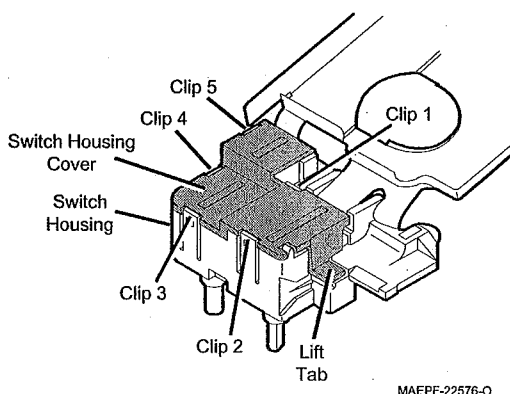

Figure 3.7
- a Five retaining clips hold the switch housing cover to the switch housing. Clips 1, 2, and 3 are important during disassembly (See Figure 3.7).